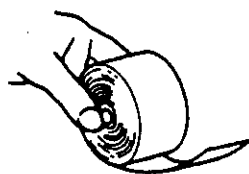

Fig. 2
3. Hold a new paper roll in the direction shown in Fig. 2 so that the paper end will be fed from the bottom.